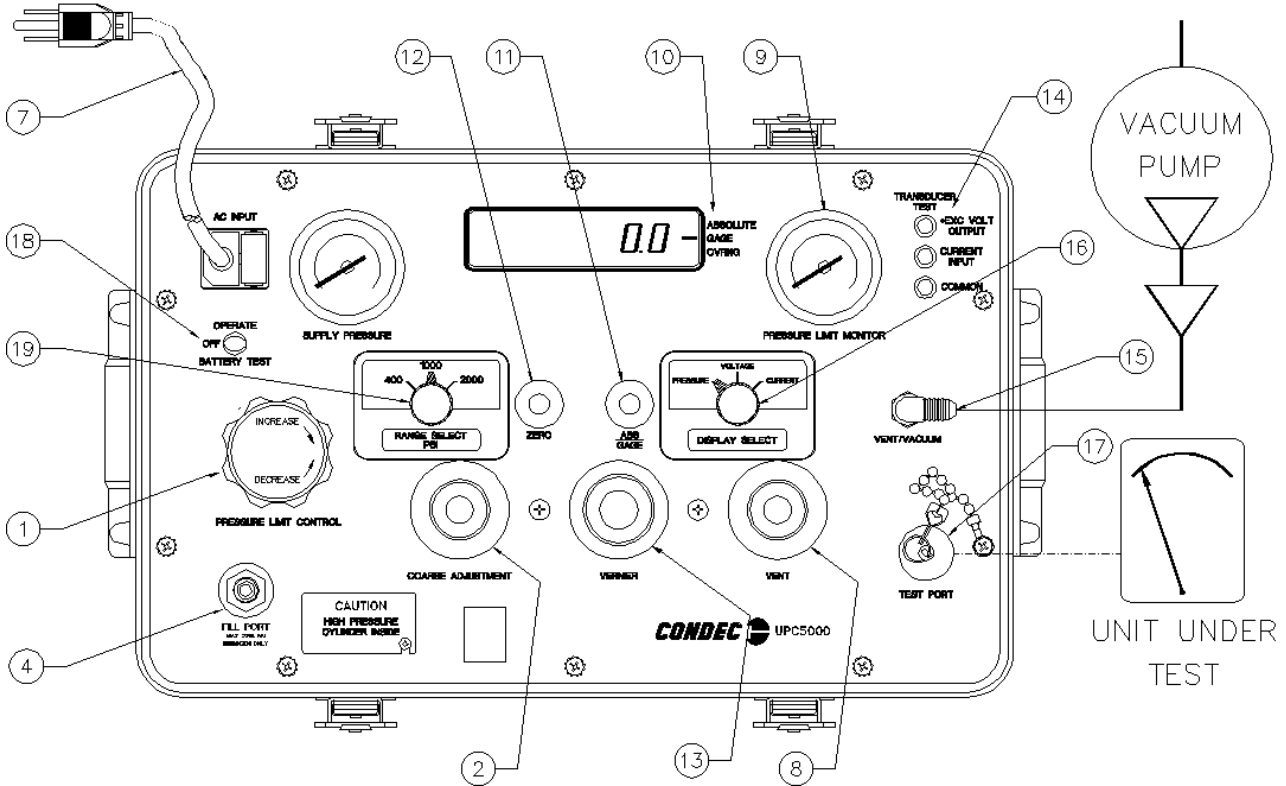

Figure 2-4. Pressure Measurement Sequence (Absolute Only)
- 1.3. To obtain exact pressure readings, slowly rotate the *VERNIER* control (13) knob in the direction required (clockwise to increase pressure) as indicated by the electronic numerical display.
2. If pressure measurements above and below atmospheric pressure are required, connect a vacuum pump to the *VACUUM/VENT* port (15) as shown in Figure 2-4 on page 7.
3. Open the *VENT* valve (8), close the *COARSE ADJUSTMENT* valve (2) and apply power to the vacuum pump and allow it to evacuate the system for several minutes or until the digital display reading reaches equilibrium near zero PSIA. Press the *ZERO* button to establish a zero reference on the display.
4. With the vacuum pump still running, close the *VENT* valve (8) and check for system leaks. If there are none, continue to step 4.1.
When selected, the momentary action BATTERY TEST switch (18) (Figure 2-4 on page 7) is used to read the actual battery voltage. The battery voltage reading typically is between 11.5 and 13.0 volts. When the battery voltage reads 11.5 volts, there are approximately one to two hours of useful operation left and a *low battery* indicator is illuminated. For LED display units, a red LED in the left center of the display turns on. For LCD display units, five LED segments in the left of the display window illuminate in a "U" shape. The instrument ceases to function when the battery voltage is 11.0 volts or less.